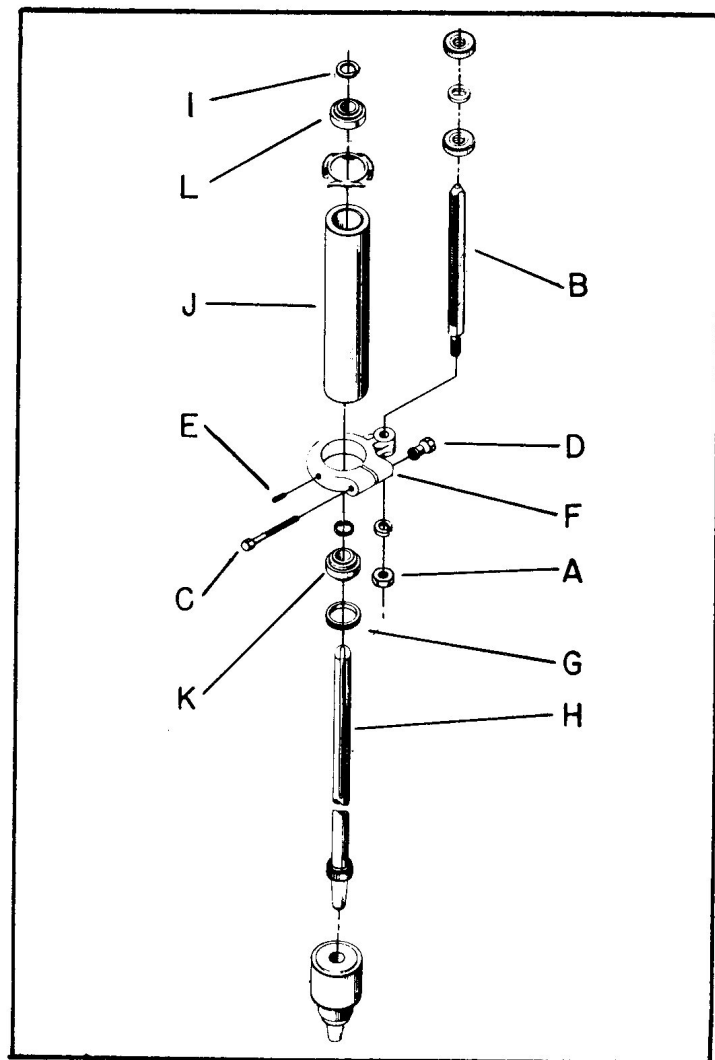

Fig. 7.
3. Remove nut (A) and stop rod (B), Fig. 7.
4. Loosen the screw (C) and nut (D) Fig. 7.
5. Loosen set screw (E) Fig. 7, and remove the stop collar (F).
9. Using a screw driver and a hammer remove the bearing closure nut (G) Fig. 7, by turning it counterclockwise as viewed from the spindle end.
10. Remove the retaining ring (I) Fig. 7, and with a soft hammer tap the top of the spindle (H) until it comes free from the quill (J). The bearing (L) remains in the quill, and can be extracted with your fingers.